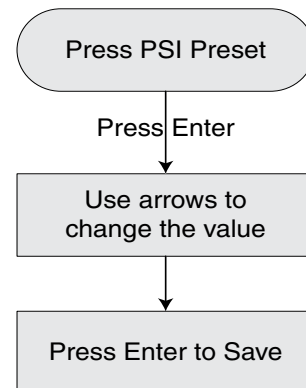

Figure 14 - Change PSI Internal Setpoint using PSI Preset.
2. Via the PSI Preset (Figure 14)